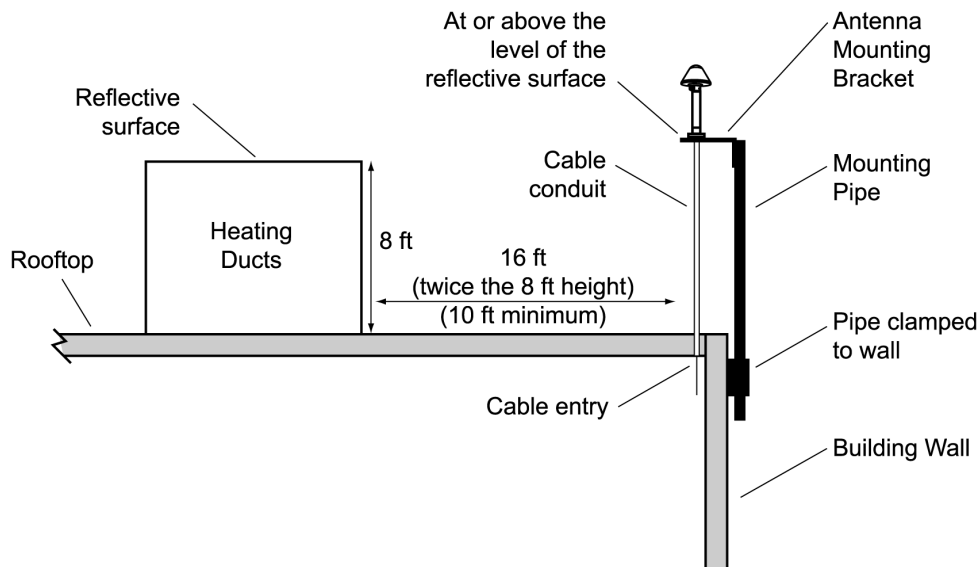

Figure 2-3. Sample Rooftop Antenna Mount
To reduce multipath signal distortions, the minimum horizontal distance from vertical reflective structures (e.g., heating ducts, equipment housings, etc.) is twice the height of the structure, and no less than 10 feet (Figure 2-3).
**Note:** Figure 2-3 is an example only. Not all parts are available from Symmetricom.